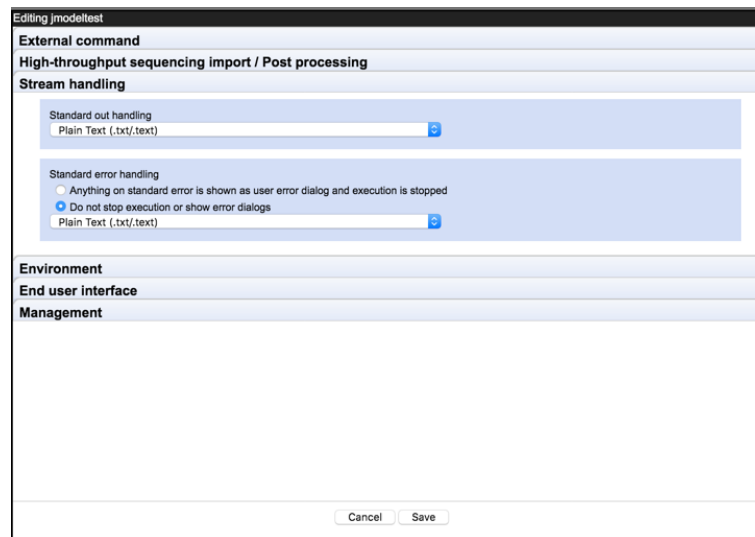

Figure 12.23: Standard error and standard out from the command line application can be collected and imported as text so it can be reviewed.
- Configure the external application to import standard out and standard error as text. This makes it possible to check error messages posted by the external application. See figure 12.23.